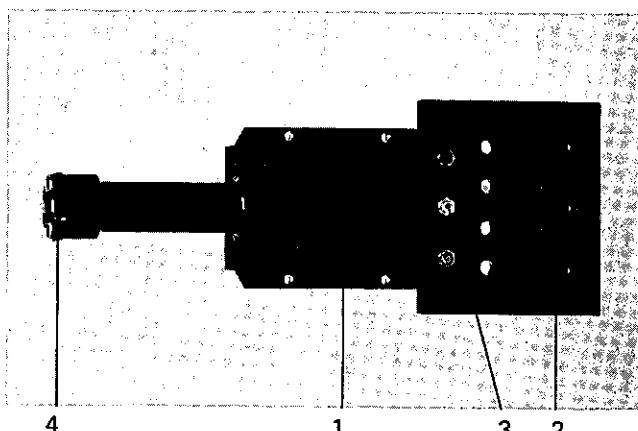

Fig. 8 Fastening the crucible block to the base plate
- a. Attach the base plate (Fig. 8, item 2) to the crucible block (Fig. 8, item 1) with the two M5 · 20 screws. The threaded hole (Fig. 8, item 3) is used for attaching the return conductor of the anode circuit.
- b. Push the gold wire seal ( $\phi$  1 mm) over the crucible part (Fig. 8, item 4).